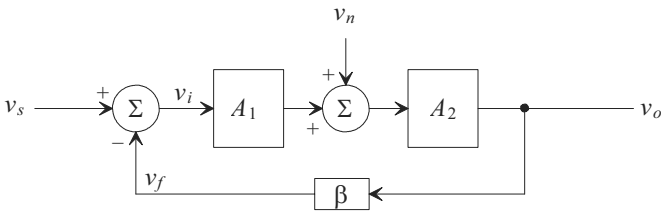

Figure 31.54 Problem 31.3, noise injected into a feedback system.
- 31.3** Examine the feedback loop in Fig. 31.54. A noise source, v_n , is injected in the system between two amplifier stages. (a) Determine an expression for v_o which includes both the noise and the input signal, v_s . (b) Repeat (a) for the case where there is no feedback ($\beta = 0$). (c) If $A_1 = A_2 = 200$, and feedback is again applied around the circuit, what value of β will be required to reduce the noise by one-half as compared to the case stated in (b)?